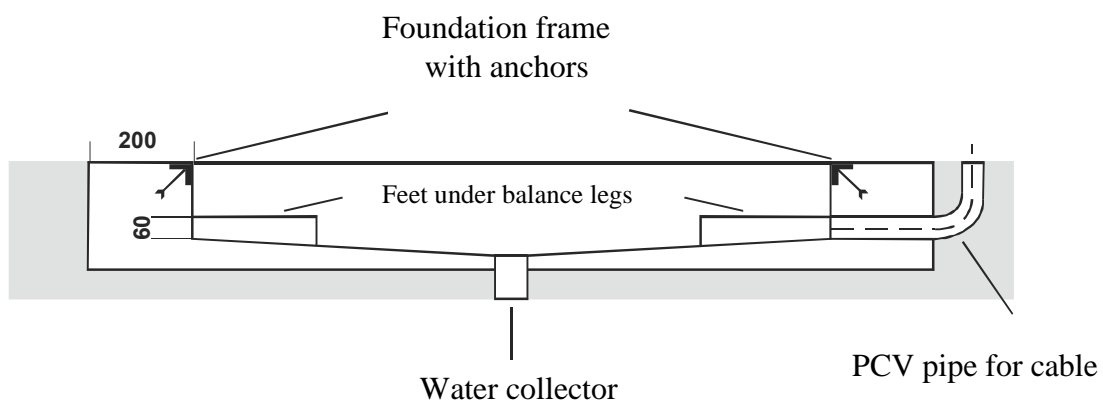

Fig.1 Foundation – crossection
2. Foundation bottom inclination angle (shown in fig. 1 on page 8) should be at least 3%.
1. Prepare the foundation (7) according to guidelines (section 6) and engineering technique principles.
2. Put the balances base plates (5) freely in the foundation.
3. Place limiters plates (4) on plates (5). Connect both plates with M8 screws (2) so they cannot move in respect to each other, but to allow for limiters (4) manoeuvring.
5. Put the balance structure (1) in the foundation, so legs (7) fit vertically in the limiters (4) holes.
7. Check the upper plate location in the foundation – level in relation to foundation edge and distance from the edges (fig. 1).
8. When needed, shift the plates (5) or put spacers beneath them, made from sheet with dimensions of plate.
9. If the position of upper plate is correct, carefully remove it to not move plates (5). Check if legs (7) are straight.
10. Carefully remove balance structure (1) from foundation to not move plates (5).
11. Fix plates (5) with supplied screws with steel pins.
12. Adjust possible displacements with plates (4) position, so legs are located centrally and vertically in plates (4) holes. Tightly screw plates (5) and (4).
13. Put balance structure (1) in place.